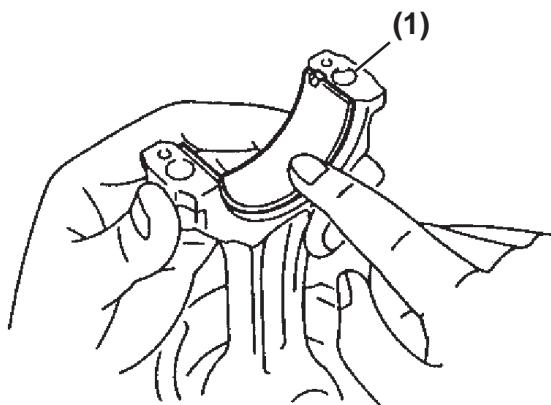

Figure 5-140
10. Align the connecting rod bearing claw (**Figure 5-140, (1)**) with the groove in connecting rod and connecting rod cap. Install all connecting rod bearings.